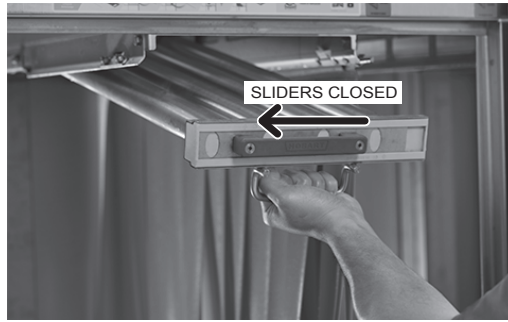

Fig. 3
- All upper and lower wash arms must be properly installed in each section. The wash arm sliders must also be placed in the closed position (Fig. 3). For both upper and lower wash arms, position the sliders to the left for the closed position.